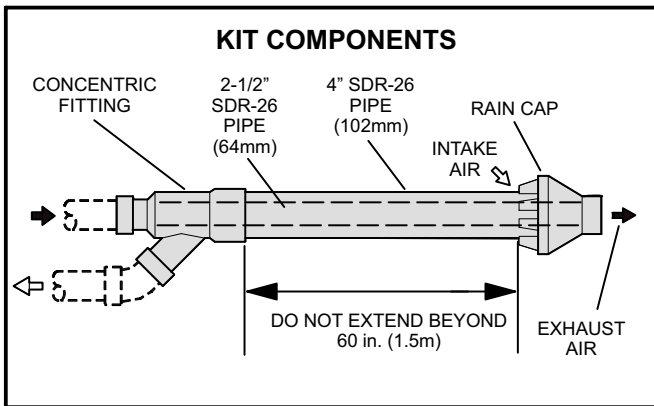

FIGURE 1
- 3 - Use proper joint cementing procedure to join concentric fitting and 4-inch (102mm) diameter pipe provided in kit. Cement rain cap to 2-1/2 inch (64mm) diameter pipe provided. See figure 1 for component identification.
Concentric vent termination air inlet must extend a minimum of 12 inches (305mm) above the average snow accumulation. If necessary, replace kit-supplied SDR-26 PVC (D2241) pipes with longer pipes of the same diameter. Do not extend length beyond dimension given in figure 1. **DO NOT** use couplings to extend length of pipes. Airflow will be restricted and unit operation may be interrupted by the pressure switch.
If the termination assembly must be lengthened to accommodate thickness of the side wall, replace kit-supplied SDR-26 PVC (D2241) pipes with longer pipes of the same diameter. Do not extend length beyond dimension given in figure 1. DO NOT use couplings to extend length of pipes. Airflow will be restricted and unit operation may be interrupted by the pressure switch.